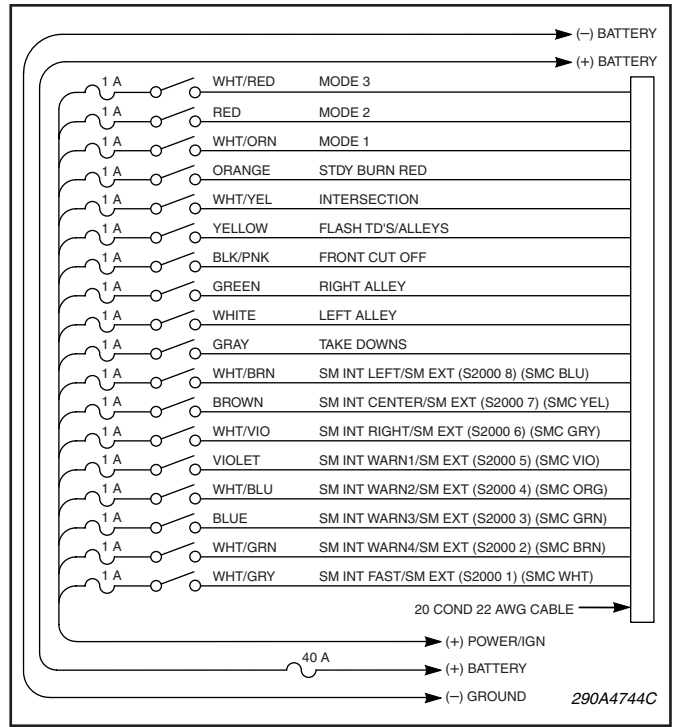

Figure 1.
2. For proper light operation, the control cable must be properly terminated inside the user-supplied control head. Using figure 1 and table 1 as a guide, make the appropriate electrical connections. Ensure that the lines are adequately fused as shown and that the switch capacity is adequate for the current requirement.
Refer to table 1 and figure 1 for proper connections.
There are three prioritized mode of operation available with mode three being the highest priority. Mode 3 (WHT/RED) will override Mode 2 (RED) and Mode 2 will override Mode 1 (WHT/ORN). One of the available flash patterns can be programmed to each mode input. Default configuration is Mode 3 Random Flash, Mode 2 Quad Flash and Mode 1 595 Flash. Programming will be covered later in this section. To activate a mode, apply 12VDC to a mode input wire. 12VDC must also be applied to the front cutoff wire (BLK/PNK) for the front of the bar to operate. See figure 1 for proper fusing.
Refer to table 1 and figures 1 and 4 for proper connections.